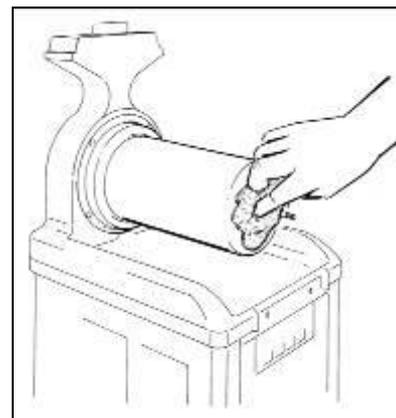

Fig. 11
- **T**horoughly wash the evaporator and the drip tray surfaces with a sponge soaked with the sanitizer (see fig.11).